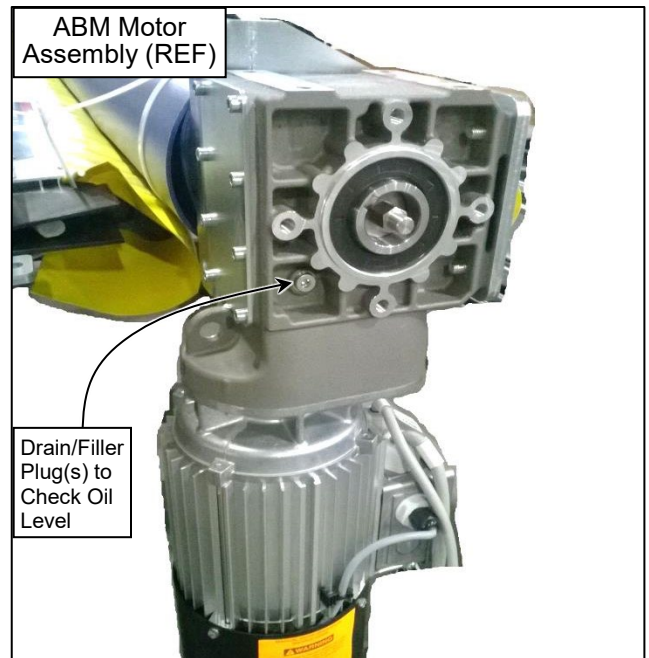

Figure 27
- The ABM gearbox is designed as a maintenance free sealed unit and its oil should not need to be checked. There are drain plugs on either side of the gearbox of the unit. (See Figure 27)